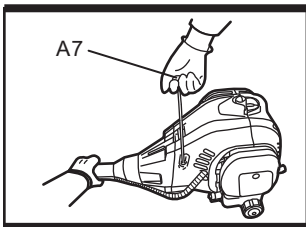

Fig. 13e
e). Hold the product stable and pull the recoil starter handle (A7) firmly; repeat until the engine starts. (See Fig. 13e)